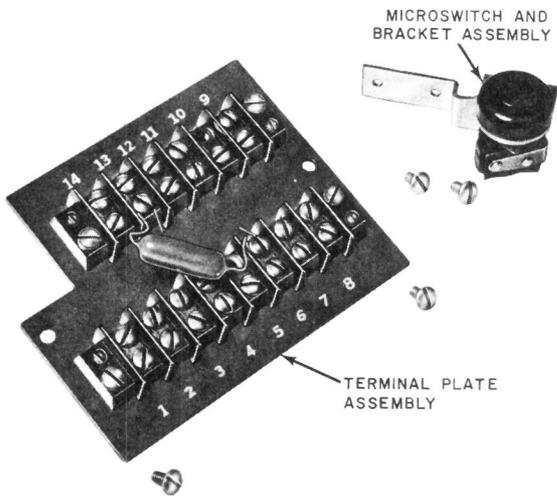

Fig. 14—D-180386 Kit of Parts
3.15 Install the microswitch (D-180386 Kit of Parts, Fig. 14) in the 526A telephone set as follows: